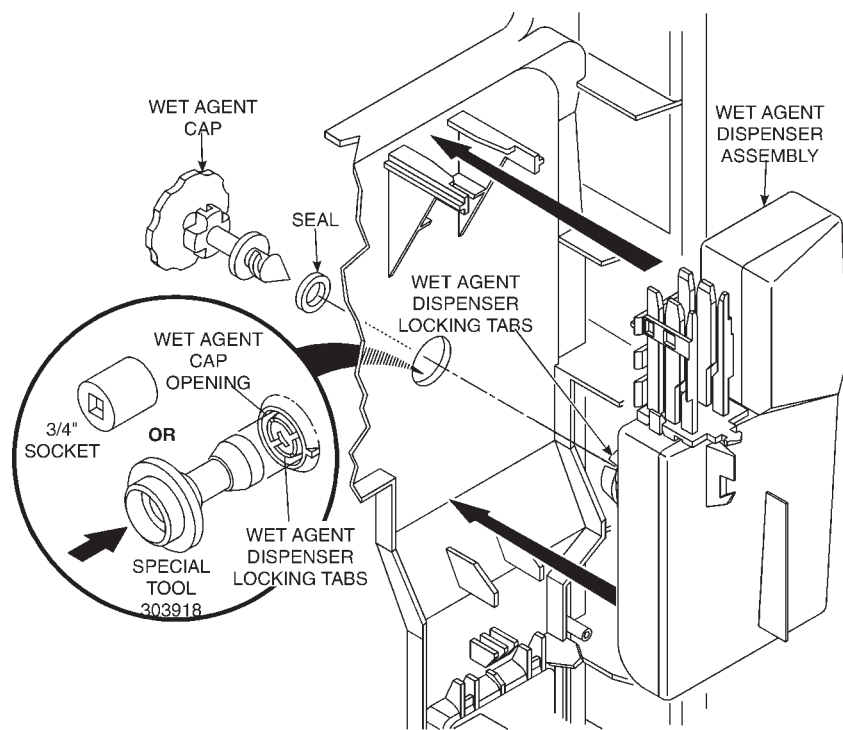

Fig. 3-12
3. Turn the wet agent cap and seal assembly counterclockwise and remove it. (Fig. 3-12)
5. Use Special Tool - Part No. 303918 or a $\frac{3}{4}$ " socket to press over the attaching tabs in the wet agent cap opening. Remove wet agent dispenser assembly. (Fig. 3-12)
7. Press the wet agent dispenser assembly into position so the locking tabs engage the wet agent cap opening. No tool is needed for assembly. (*Fig. 3-12*)